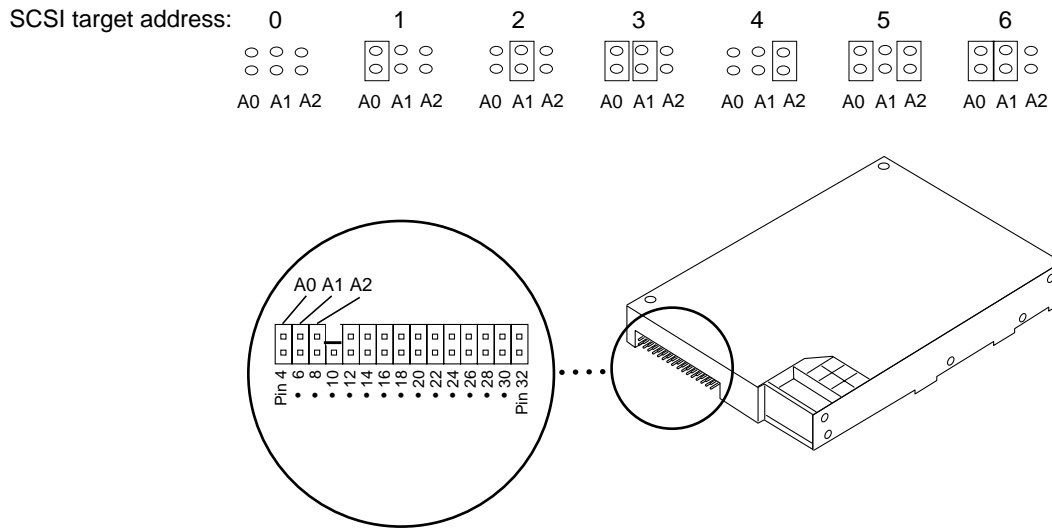

Figure 3-10 Available SCSI Target Address Jumper Settings—IBM Drive
- See Figure 3-10 for the available SCSI target address jumper settings on an IBM drive.